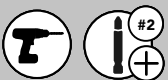

FIG. C-1
If there is sufficient clearance, install (2) rear screws (See Figure C-1).